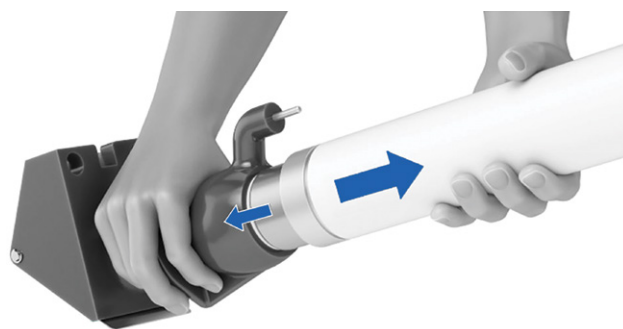

Figure 4-23: Release fuse in the holder
7. Pull the contact ring backwards to release the fuse contact clamp in the holder. See figure 4-23.